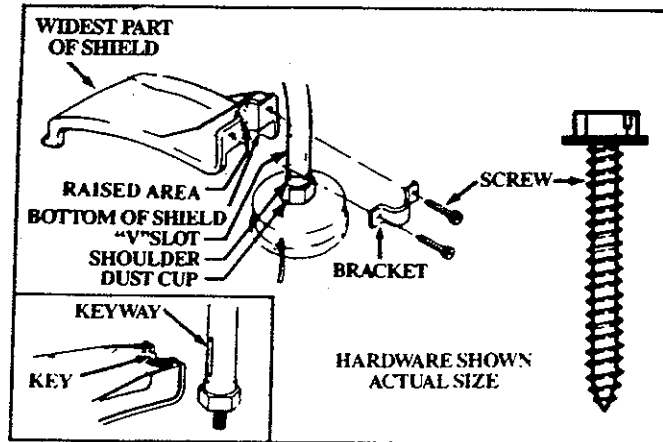

Figure 4
3. SHIELD — Figure 4
Failure to install the shield in the position shown in Figure 4 and 5 can result in serious injury to the operator. The length of the shield must be aligned with the length of the drive shaft housing. Direct the widest part of the shield toward the engine.
- Match the Key (Raised area) on the Shield with the Keyway ("V" slot) on the Drive Shaft Housing. Figure 4(Inset).
- Install the Bracket and Screws as shown in Figure 4.